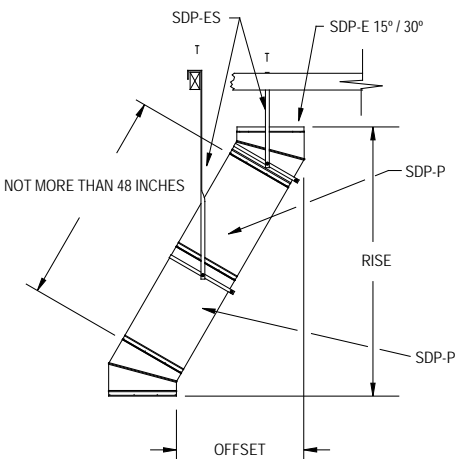

Figure 17
1. **Attach Elbows:** Attach Elbows to Chimney Sections or other Elbows by twisting clockwise until they lock firmly. Attach one Elbow to the Chimney Section below, and align it for the offset. If the needed direction of the Elbow is different than the fully locked position, the Elbow can be rotated to desired direction and can be secured to pipe section with a minimum of (4) sheet metal screws. Do not penetrate the inner wall. Refer to Table 3 to determine the required offset length and attach an appropriate length (or lengths) of Chimney Section(s) above the Elbow. Do not exceed the maximum lengths between the Elbows specified in Table 3. Attach the second Elbow above the Chimney Section to complete the offset. (Figure 17).